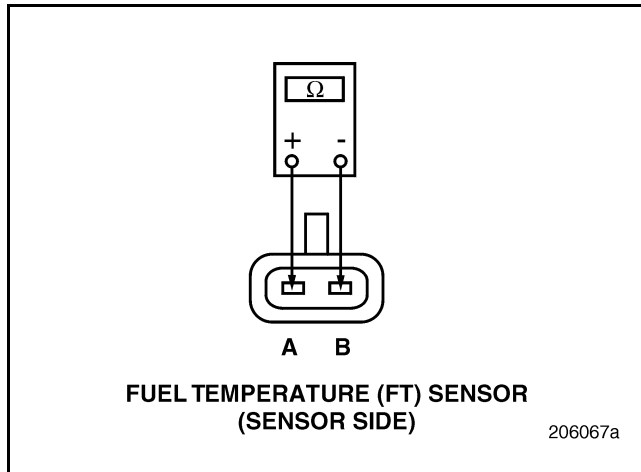

Figure 43
2. Disconnect the Fuel Temperature (FT) Sensor harness connector.
3. Measure the resistance across the pins of the FT Sensor with the fuel temperature between 32° and 194°F (0° and 90°C) (see Figure 43).